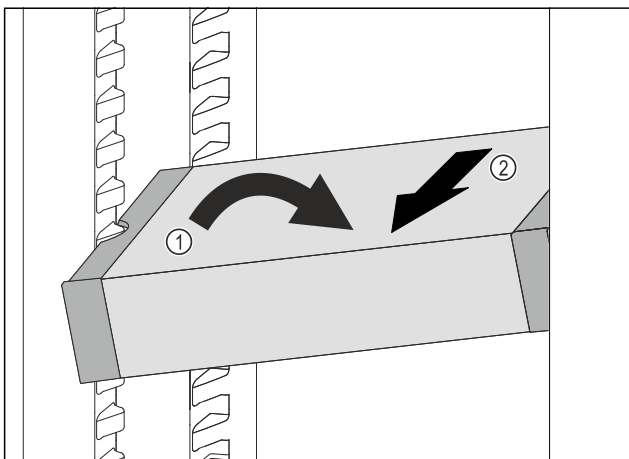

Fig. 117
- ▶ Set VarioSafe in refrigerator compartment at an angle. Fig. 117 (1)
- ▶ Take VarioSafe out to the front. Fig. 117 (2)